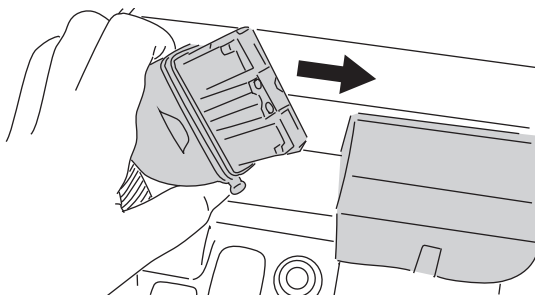

Figure 8. Connecting Power Cable
6. Connect the power cable to the battery connector of the battery pack (Figure 8).